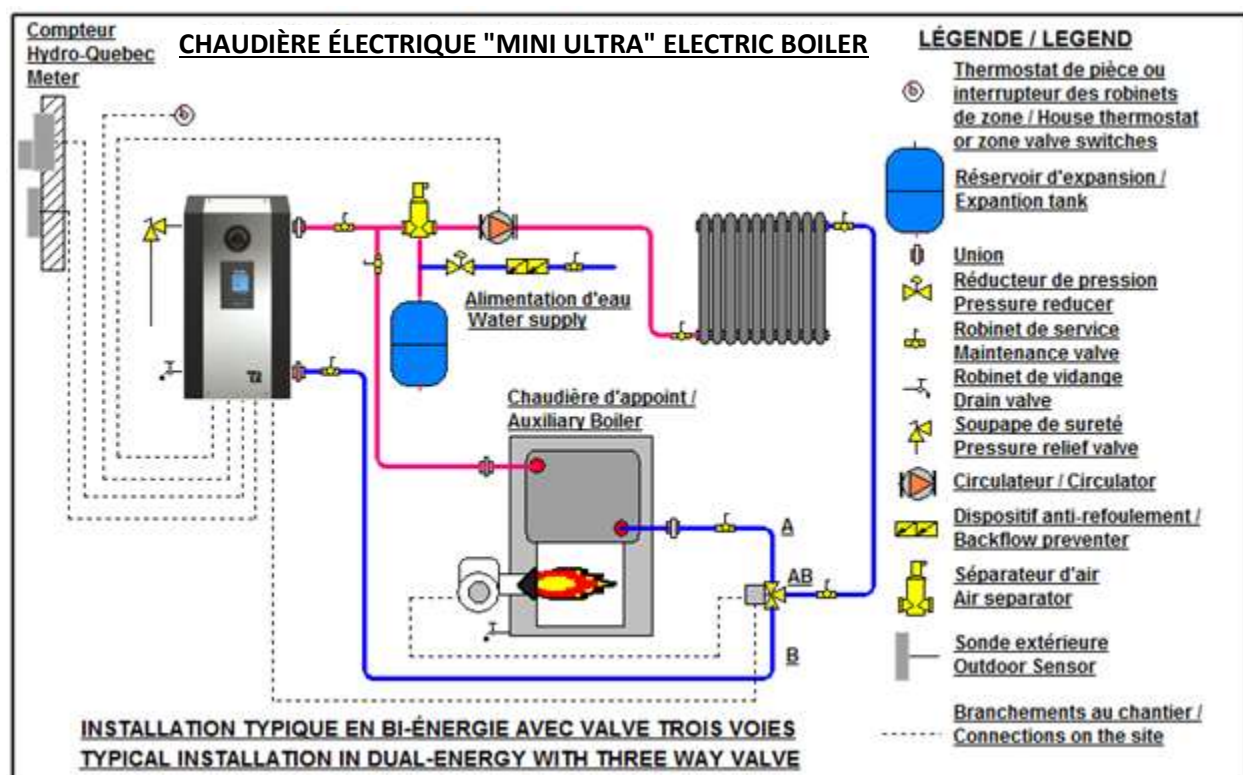

Figure 7 : Typical insallation for dual-energy with three-way valve (USA models only)
N.B.: Make sure to select the appropriate port A, B and AB when making the connection of the piping (see fig.7)
- If the piping installation is made as shown on fig.7 without a three-way valve: